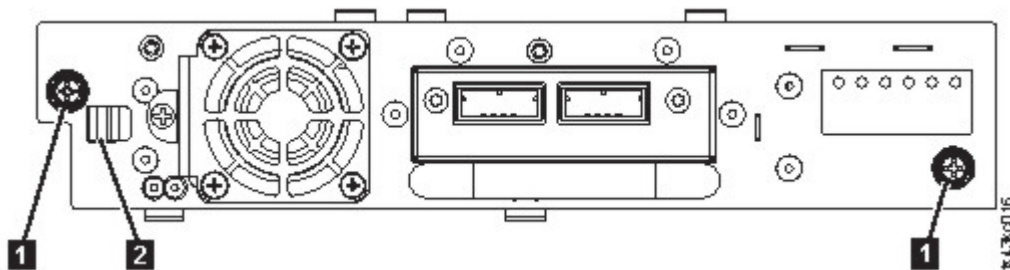

Figure 61. Unlocking the drive
- Loosen the blue captive thumbscrews (1 in Figure 61 on page 118) on the tape drive. Press the lock lever (2 Figure 61 on page 118) to the right and pull straight back on the tape drive handle while the bottom of the drive is supported to remove it from the unit.